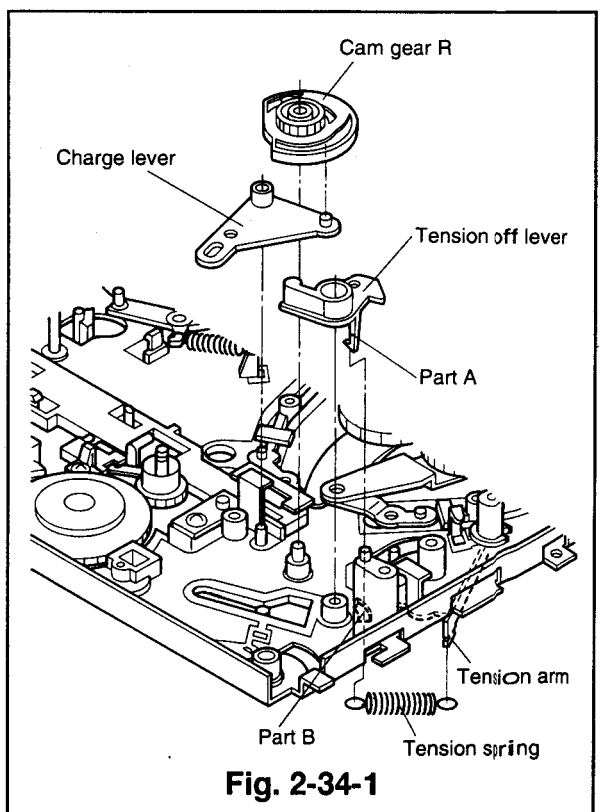

Fig. 2-34-1
- ③ Remove the charge assembly. (Refer to item ② of Para. 2-18 for the removal method.)
- ④ Remove the reel belt and the pulley belt. (Refer to Para. 2-28 for the removal method.)
- ⑤ Remove the loading motor assembly (which holds the motor holder). (Refer to Para. 2-29 for the removal method.)
- ⑥ Remove the main gear J. (Refer to Para. 2-30 for the removal method.)
- ⑦ Remove the plate J, the roller B, and the cam plate B. (Refer to Para. 2-33 for the removal method.)
- ⑧ Raise the cam gear R upward to remove it. (Refer to Fig. 2-34-1.)
- ⑨ Remove the charge lever. (Refer to Fig. 2-34-1.)
- ⑩ Remove the tension off lever. (Refer to Fig. 2-34-1.)
- ① Let part A pass through part B shown in Fig. 2-34-1 to install the tension off lever.
- ② Fix the charge lever to the shaft.